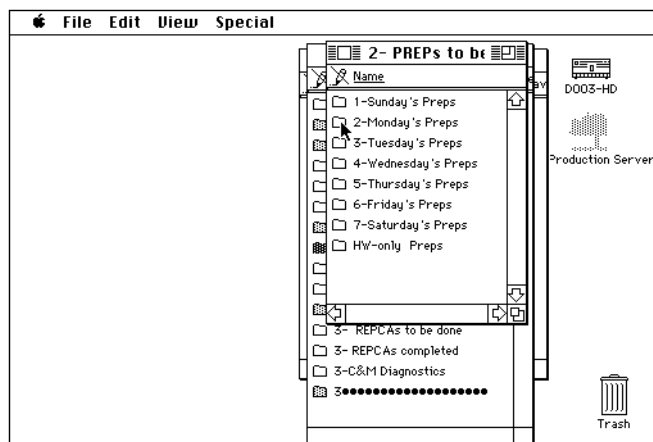

Figure 6
- 10.2 Position the mouse pointer on the “Preps” folder for the applicable day of the week and double click to open it (this example is for Monday). See Figure 6.